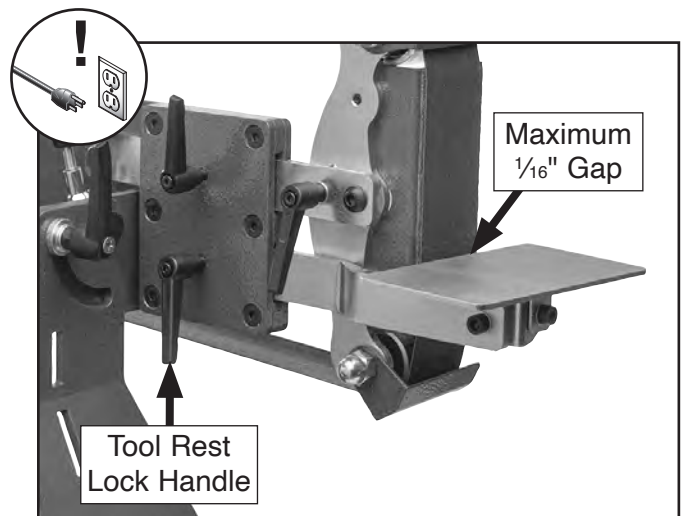

Figure 39. Tool rest clearance adjustment controls.
2. Loosen tool rest lock handle, adjust tool rest so there is no more than $\frac{1}{16}$ " between rest and belt (see **Figure 39**), then tighten handle to secure.